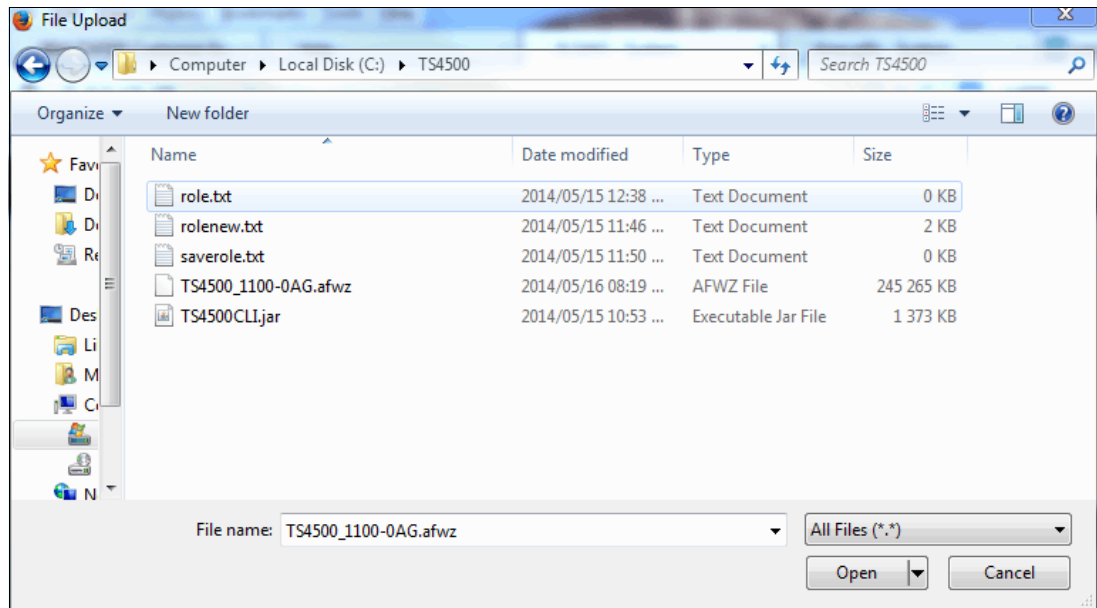

Figure 4-150 File Upload
2. On the File Upload window, browse to the library firmware image and click **Open**, as shown in Figure 4-150.